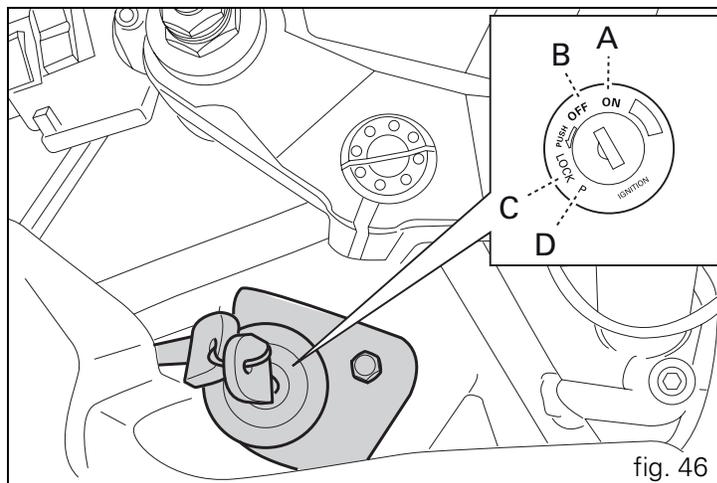

fig. 46
1) Turn the ignition key to **ON** (fig. 46). Check that both the green light N and the red light  on the instrument panel come on.